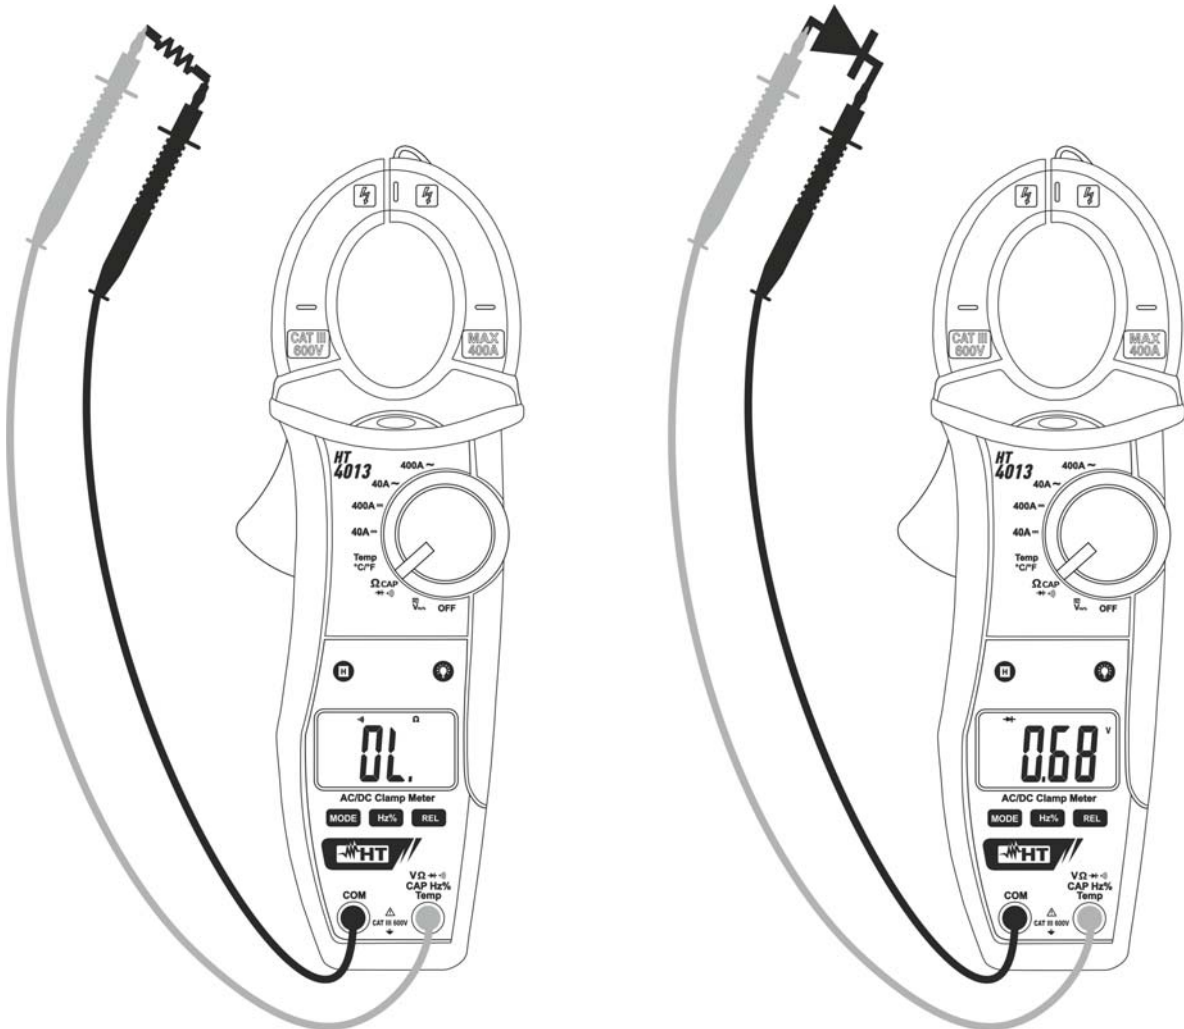

Fig. 7: Use of the clamp for continuity test and diode test
3. Insert the red cable into input terminal **VΩ→→)CAPHz%Temp** and the black cable into input terminal **COM** and carry out the continuity test of the object to be measured (see Fig. 7– left side). An buzzer sounds when the measured value of resistance is lower than 150Ω
5. Connect the red lead to the anode of the diode and the black lead to the cathode in case direct polarization measurement is carried out (see Fig. 7 – right side). Invert the position of the leads in case reverse polarization measurement is carried out.